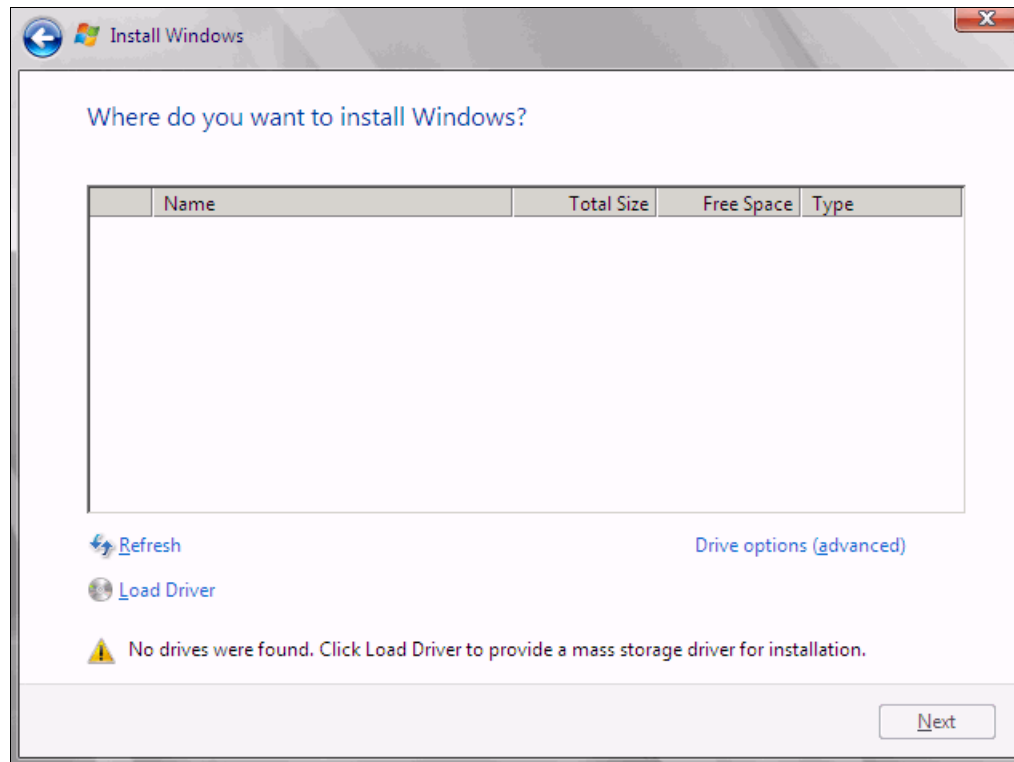

Figure 9-109 No drives found message
16.If no disks are displayed (Figure 9-109), insert the media that contains the drivers. The media can be in the form of a USB key, CD, or DVD, on a remotely mounted ISO. Then click **Load Driver** to load a driver for your storage device (Emulex card).